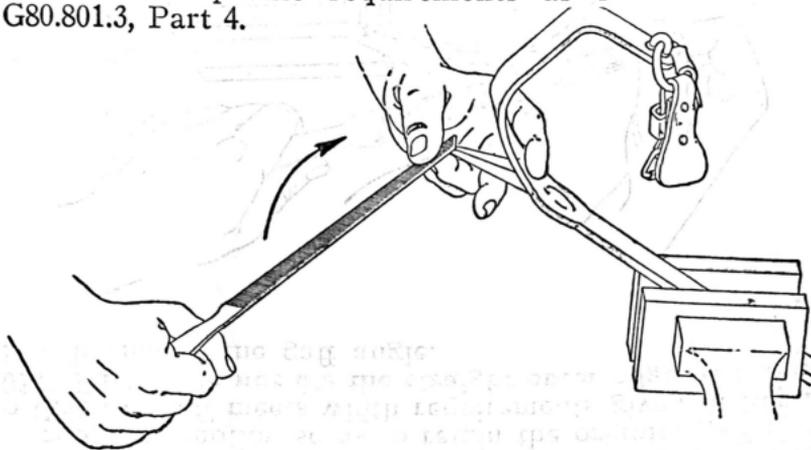

Fig. 4
- (1) File the gaff against the point. Using light, even strokes, guide the file in arc as shown in Figs. 4 and 5 in order to form the curve at the point. Lift the file at the completion of each stroke. File the point of the gaff until it meets the profile requirements as shown in Section G80.801.3, Part 4.